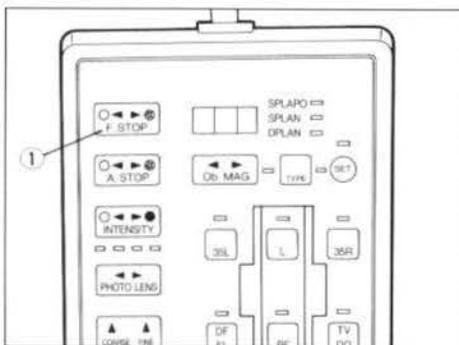

Fig. 32
① Press the position "⊗" of the field iris diaphragm button ① on the control box until a beep sounds. (Fig. 32)